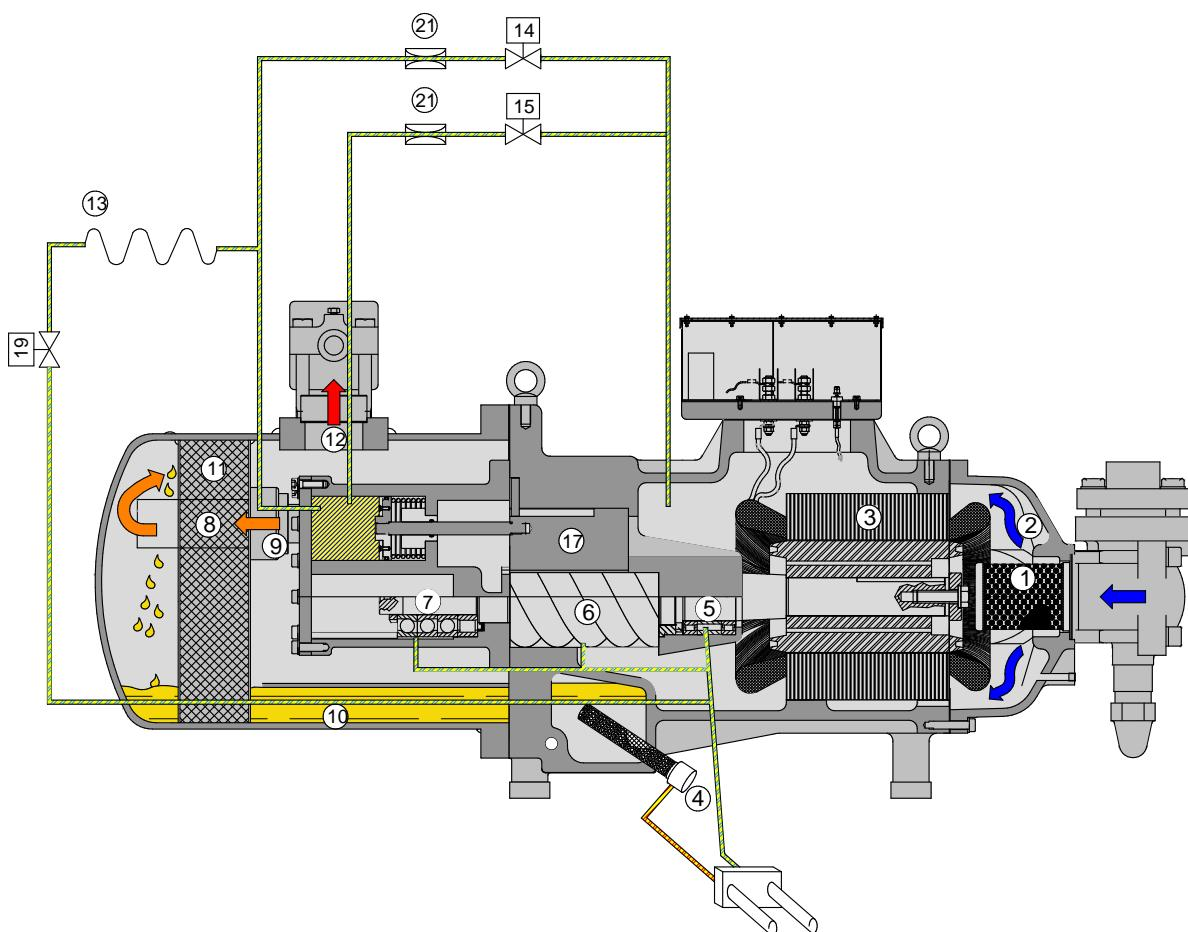

Fig. 7: diagram of the internal oil circuit for lubrication and operation of the slide valve;
The lubricant is held in the bottom of the housing and in the oil separator. As shown in Fig. 7, the oil separator of the SRC-S compressors is connected directly to the front of the compressor flanged casing.
The high-pressure oil-gas mixture undergoes to a separation process in the 'DEMISTER', part (11) in Fig. 7 (see paragraph 3.4 'Oil separation'); then the oil is collected at the bottom of the oil separator while the gas leaves the compressor through the discharge shut-off valve located on top of the oil separator.
- ✓ actual filtering of the discharged gas by the "DEMISTER" (part (7) and (11) respectively in Fig. 7; variation in direction and speed of the compressed refrigerant-oil mixture).
The compressors are fitted with a high efficiency oil filter. In models SRC-S-113÷163 this is positioned inside the compressor, and therefore to be inspected the discharge bell and the oil separator need to be removed. In the remaining models of the SRC-S series, on the other hand, the oil filter is positioned on the bottom of the crankcase, as shown in Fig. 7³, and as a result it is easily accessible from the outside of the compressor. For further details on the position, see chapter 8: "Dimensional drawings and packaging".